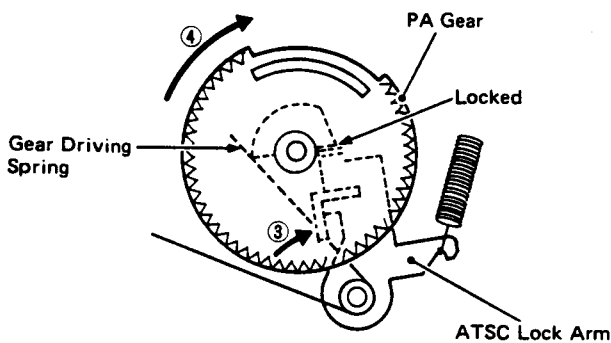

Fig. 13
- (9) In ejected state, PA gear remains locked by ATSC lock arm, as shown in Fig. 13. The force along arrow ③ caused by the operation of above step (8), releases the lock of PA gear, whereupon the PA gear is made to rotate slightly along arrow ④ by the gear driving spring. As a result, the PA gear engages with sensing cam gear, and proceeds to turn through 1 more rotation. The cam of PA gear then causes the HD drawing arm and key-off lock arm to move along arrow ⑤. The HD drawing arm pushes against a lever, and a spring attached to the lever causes the head base to shift along arrow ⑥